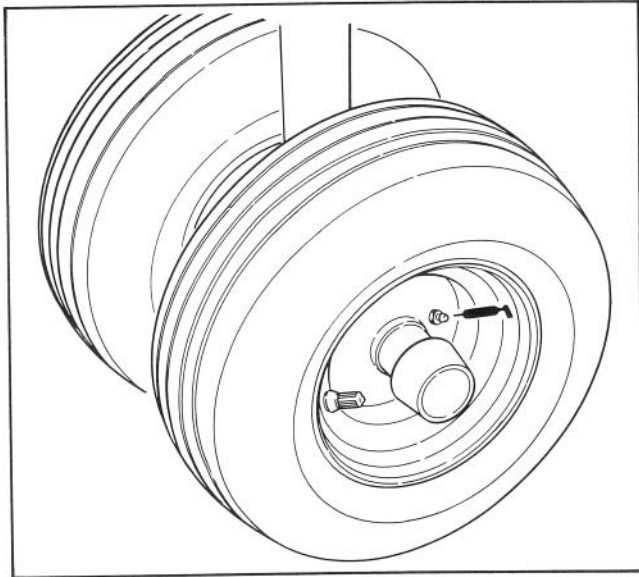
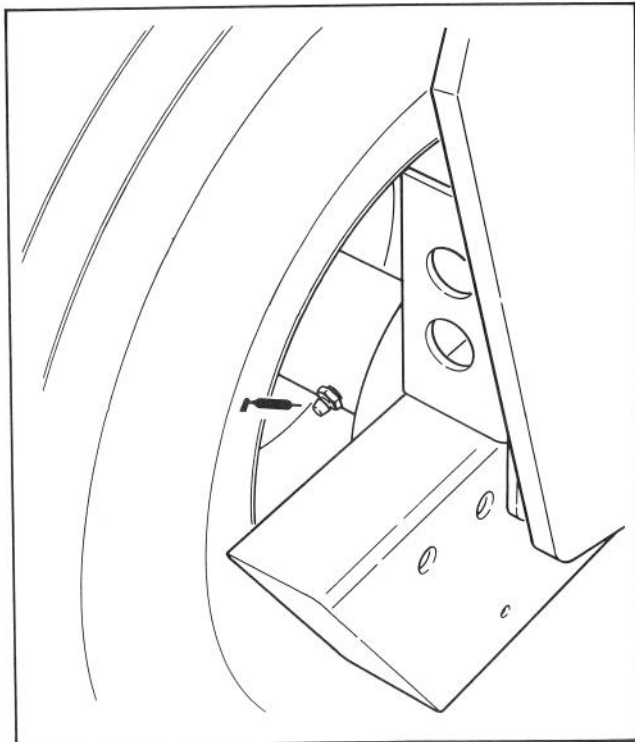
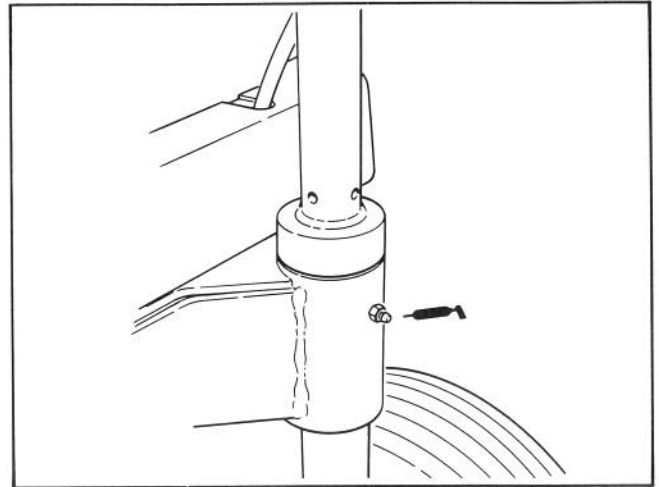

Figure 26
Figure 27
Figure 28
The bearings and bushings that must be lubricated are: front wheels (Fig. 26), rear wheel spindles (Fig. 27), front handle shaft (Fig. 28), and damper pivots (4) (Fig. 29).